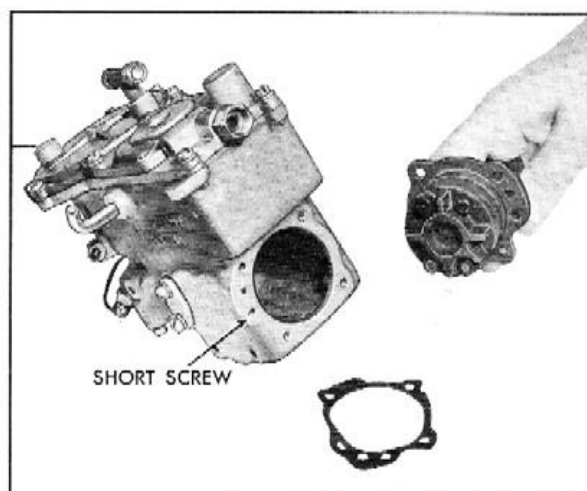

Fig. 26 Installing Fuel Meter Fuel Pump
7. Using a new gasket held in place with light engine oil, carefully position the high pressure fuel pump into the fuel meter and secure with five screws and lockwashers, Fig. 26.
NOTE: One screw is shorter and must be installed in proper hole, Fig. 26.